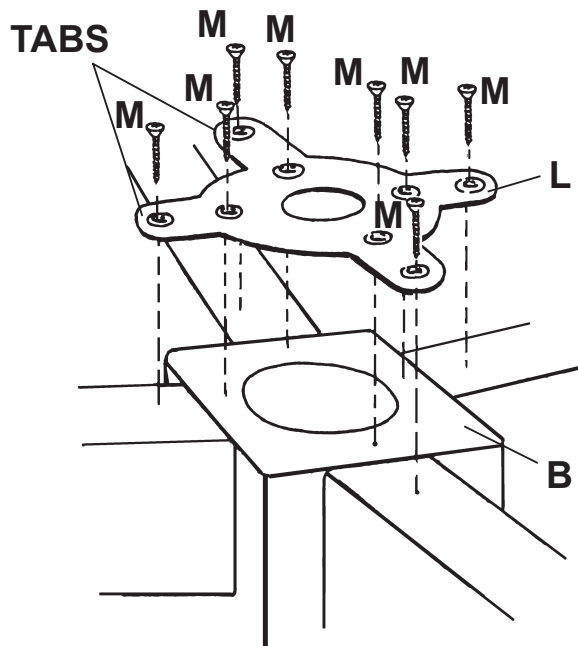

Fig. 6
- Center the Star Plate (L) on the bottom of the Pedestal (B) so that the tabs align with the legs as shown in Figure 6. Mark the location of the four screw holes that are nearest to the center of the plate and punch these marks with a nail, or drill with a 1/8" drill bit. Drill the holes 3/4" deep. To prevent yourself from accidentally drilling through, mark the drill bit with a piece of tape 3/4" away from the end of the drill bit. Stop drilling when wood meets tape. Insert #10 x 1" Oval Head Screws (M) in the four center holes and tighten until the plate is seated firmly against the base. This will cause the tabs on the Star Plate to conform to the angles of the feet. Using #10 x 1" Oval Head Screws (M), attach the tabs to the feet through the outer holes. See Figure 6.
- Turn the table upright. When you have placed the table where you want it located, rotate the Adjustable Glides (H) found at the bottoms of the feet to level the table.